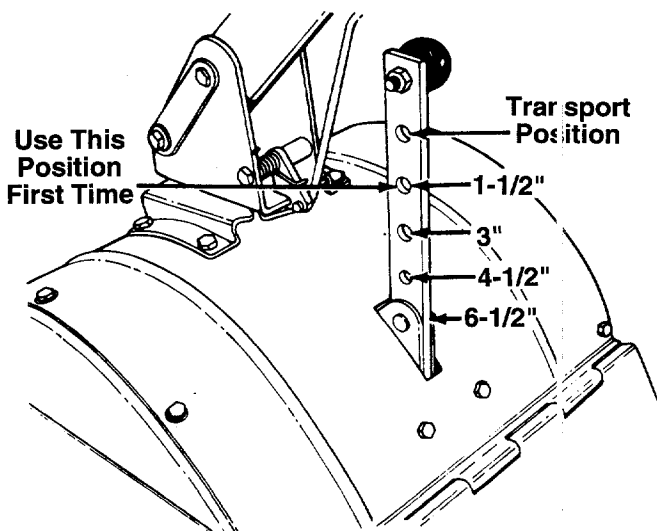
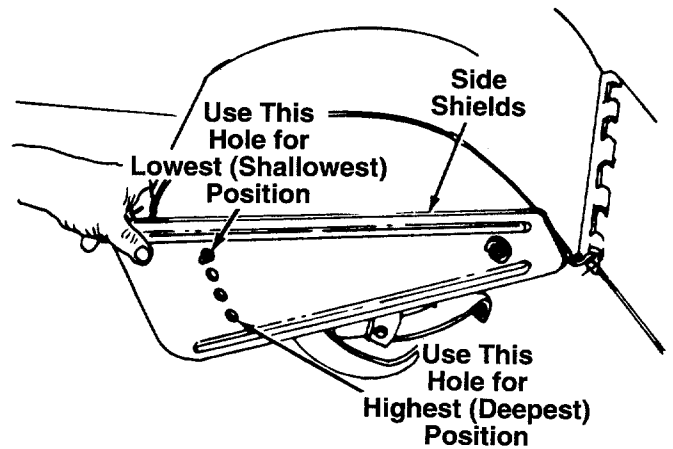

FIGURE 19.
FIGURE 20.
WARNING: When operating the tiller for the first time, use the depth bar setting that gives 1-1/2 inches of tilling depth (second hole from the top). Refer to figure 19.
Tilling depth is controlled by the depth bar which can be adjusted to five different settings. See figure 19. Adjust the side shields as shown in figure 20, as you adjust the depth bar. Be certain spark plug wire is disconnected and grounded against the engine.
- When using the tiller for the first time, use the second adjustment hole from the top (1-1/2" of tilling depth). See figure 19.
To adjust the depth bar, remove the clevis pin and hairpin clip. See figure 19. Move the depth bar to the desired setting.
To adjust the side shields, remove the hex nut and belleville washer from the front and loosen the rear nut. See figure 20. Pivot the side shield to the desired position. Replace hex nut and belleville washer. Tighten securely.